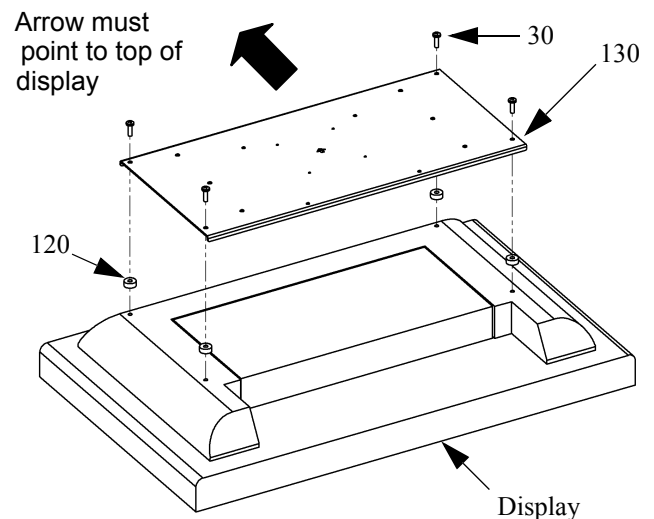

Figure 9: Attach 550mm x 235mm Interface Adapter
1. Select four M6 screws (30) and four spacers (120) from parts bag.
3. Install four M6 screws (30) into the four mounting holes on the interface bracket (130). (see figure 9)
4. Slide 4 retaining spacers (120) onto four M6 screws (30).